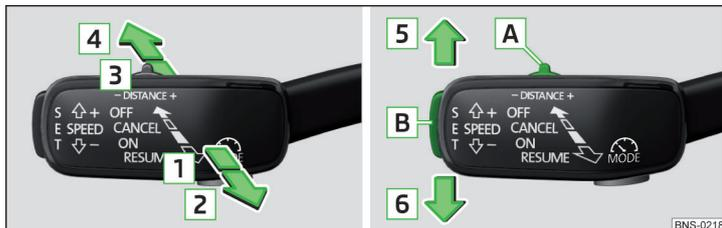

Fig. 273 Operating lever
Overview of ACC functions operated with the lever » Fig. 273
- Press the button **SET** » Fig. 273 on page 235 .
- or set the lever into the sprung position **RESUME** » Fig. 273 on page 235 .
- Set the lever into the sprung position **CANCEL** » Fig. 273 on page 235 .
The desired speed can be set or changed using the control lever » Fig. 273 on page 235.
The proximity to the vehicle ahead can be set with the lever » Fig. 273 on page 235 or in Infotainment » page 233, *Settings in Infotainment*.
› Set the switch **DISTANCE** to the spring-tensioned position – or + » Fig. 273 on page 235.
Acceleration can be cancelled at any time by touch on the brake pedal or pressing the button **CANCEL** on the lever » Fig. 273 on page 235.